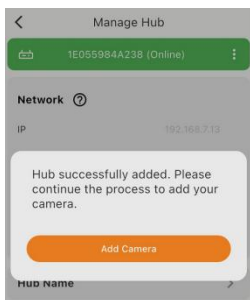

Figure 6: Add Hub successfully
- After adding the Hub successfully(Figure 6).
- Tap **Add Camera** directly from the pop-up (*Figure 6*) that appears after the Hub has been successfully added, or go to the **My Camera** tab on the device page and tap **Add Your Camera**. If you already have cameras added, tap the **+** button in the camera list and select **Camera**.